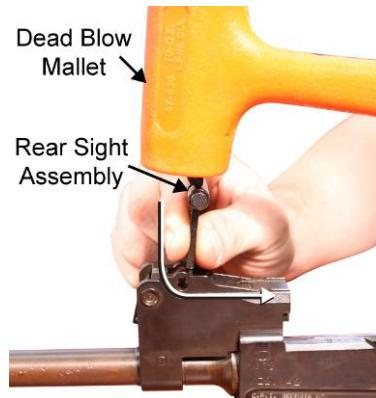

Figure 10. Dislodging and Removing the Rear Sight Assembly Using a Dead Blow Mallet.
b. While pulling the bottom of the rear sight assembly rearward, use a dead blow mallet to tap on the top of the rear sight assembly to dislodge it. Refer to Figure 10.